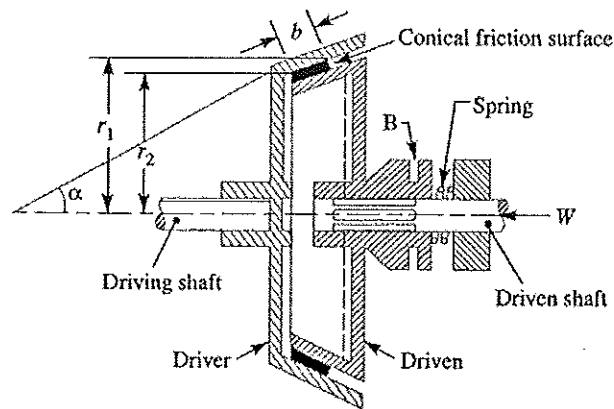

Figure.Q6
- a. Figure.Q6 shows a cone clutch.